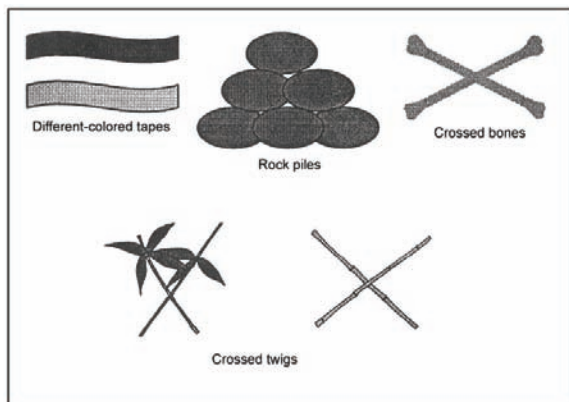

Figure 052-192-1269-1. Examples of explosive-hazard markers
(1) Check for improvised markings of mines, booby traps, IEDs, and UXO (figure 052-192-1269-1). Look for—